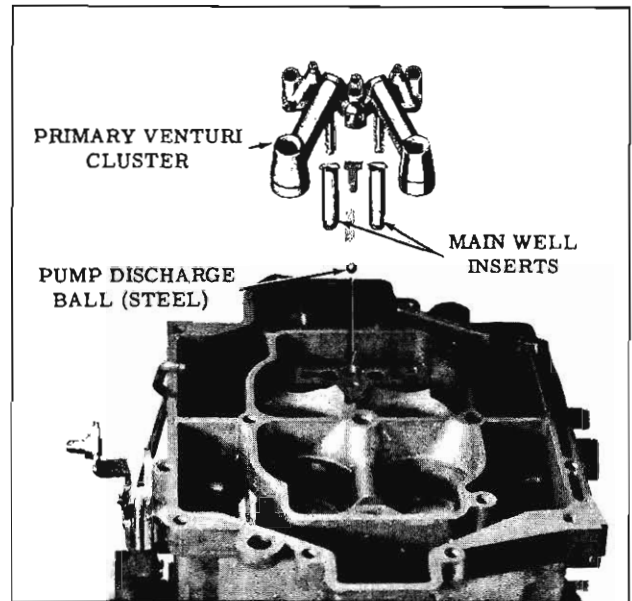

Fig. 4-13 Pump Discharge Spring, Guide and Main Well Inserts
5. Install the pump outlet steel ball, spring, and "T" shaped guide in the center hole of primary venturi cluster. (Fig. 4-13)
6. Install the main well inserts. (Fig. 4-13)